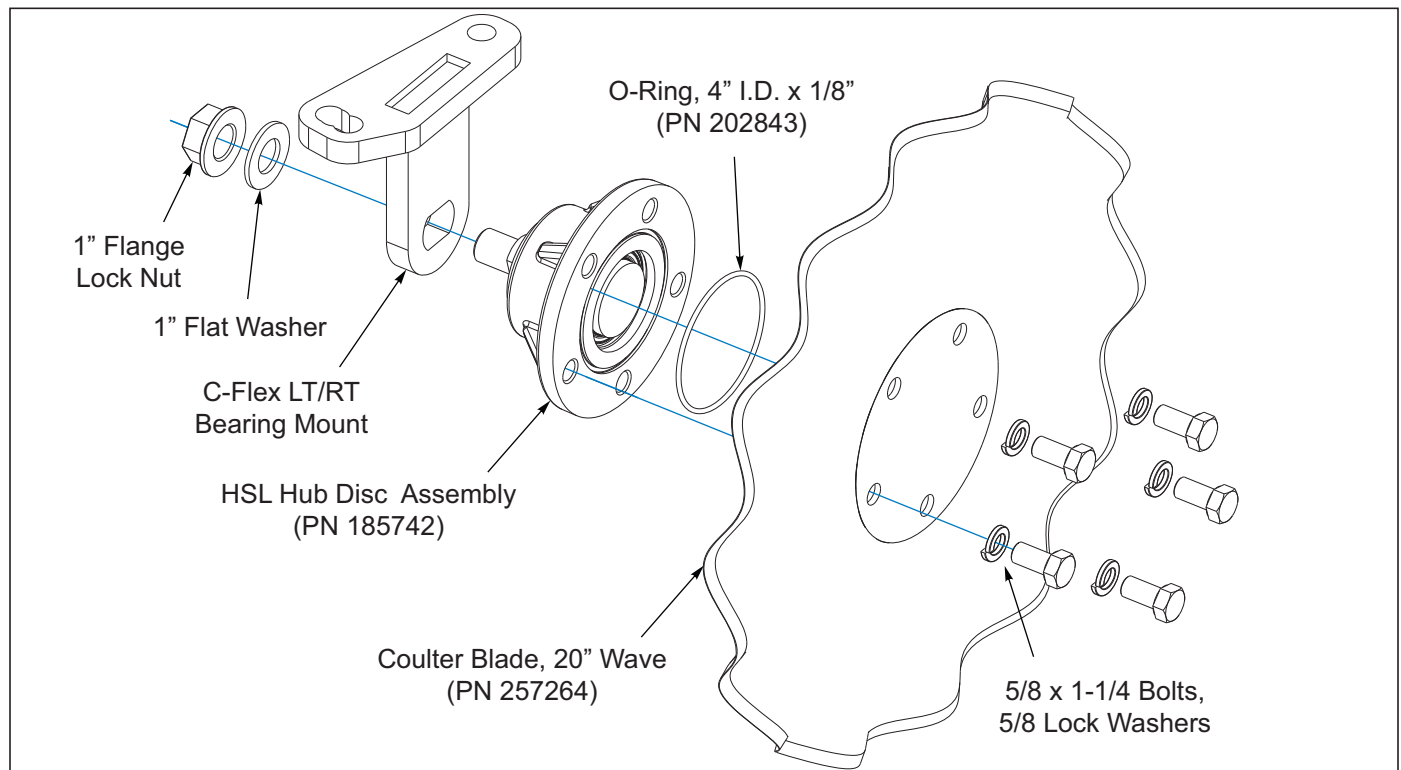

Figure 4-21: Hyd Disc Lev/Reel Disc Hub Bearing
1. The replacement hub and bearing assembly is available as a pre-assembled assembly, Landoll 210880 for your convenience. Should you choose, the wear parts are also available in a kit to re-build the disc hub. Landoll kit 219945 includes the essential wear parts to rebuild a disc hub in the field **See Figure 4-21**. When rebuilding disc hubs in the field it is highly recommended that you obtain a die, Landoll 218733, to assist in the proper assembly of the components in the hub assembly. Landoll Corporation will not accept responsibility for, or warranty hub assemblies re-built in the field.